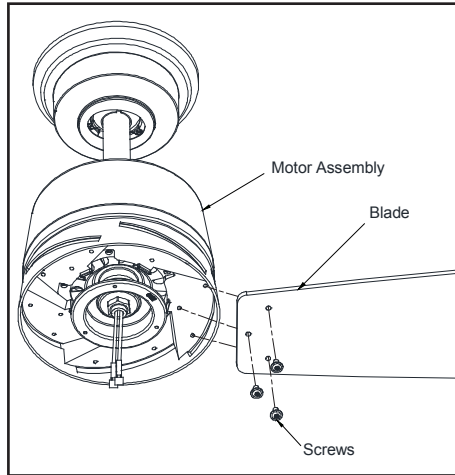

Figure 12
1. Insert the blade through the slot cut-off in the center flywheel, align the three screw holes in the blade with the screw holes in the flywheel. Secure with the screws provided. (Figure 12)